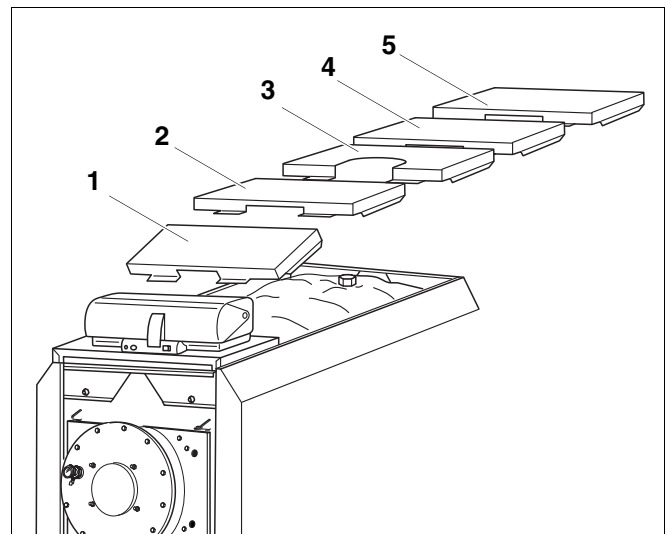

Fig. 30 Cover sections
- Loosely lay boiler cover sections [1], [3], [4] and [5] on top of the right and left side panels, as shown in Fig. 30, with the folded edges facing forwards. Position boiler cover section [2] with the folded edge facing backwards.